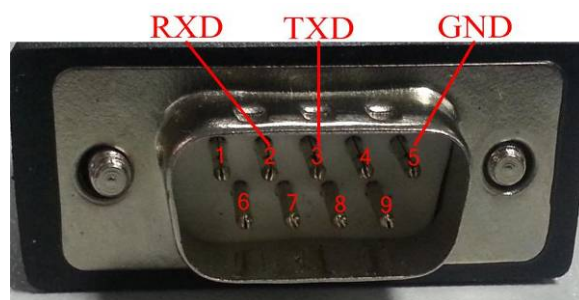

Fig 1-3 Male type pins definition of RS_232Port
- 1) Male type pins definition of RS_232Port is shown in Fig1-3.